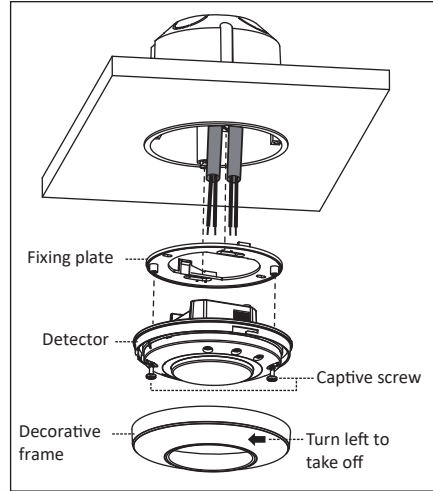

FIG.5
3. Please refer to illustration of FIG.5 for correct installation. Fix the fixing plate to the box. After wiring, fix the detector to the fixing plate with 2pcs captive screws. (See FIG.5)